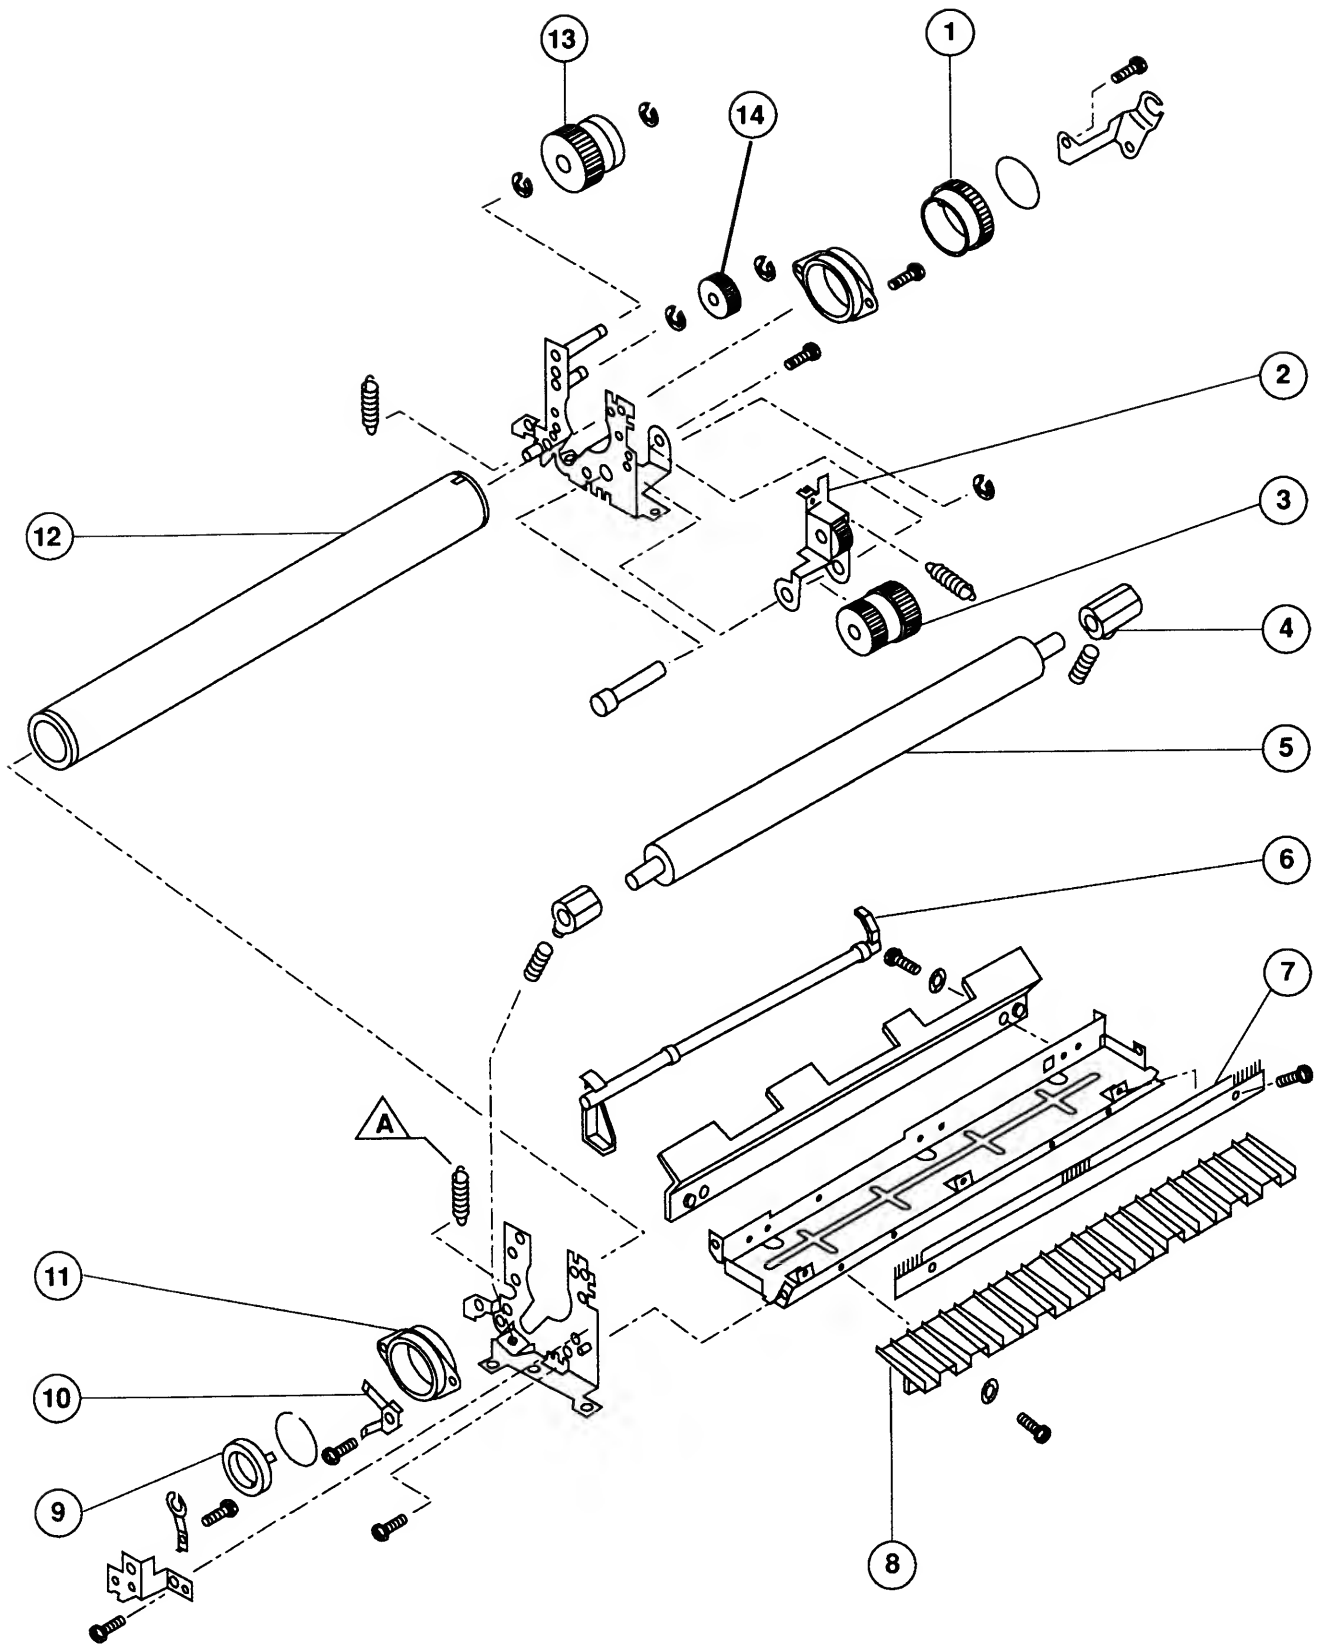

FIGURE 22
□ FUSER ASSEMBLY, PARTIAL EXPLODED VIEW #2 (Figure 22)